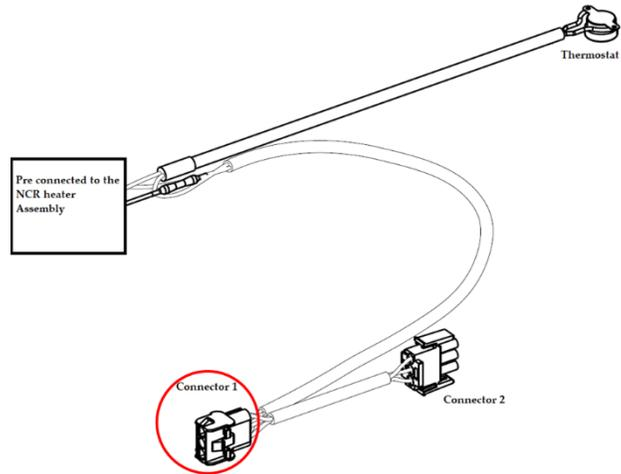
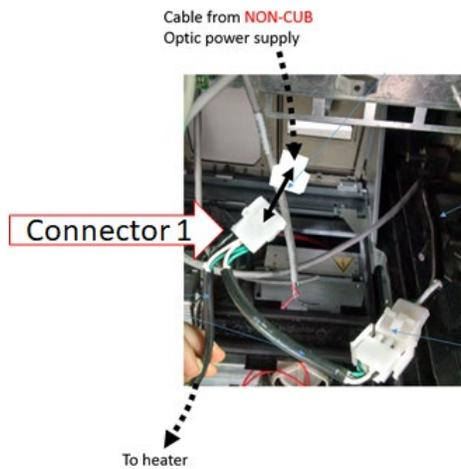

Figure 169
Figure 170
- 9) Attach Connector 1 (identified in Figure 169) to the NON-Invenco Link OPTIC power supply cable as shown in Figure 170.